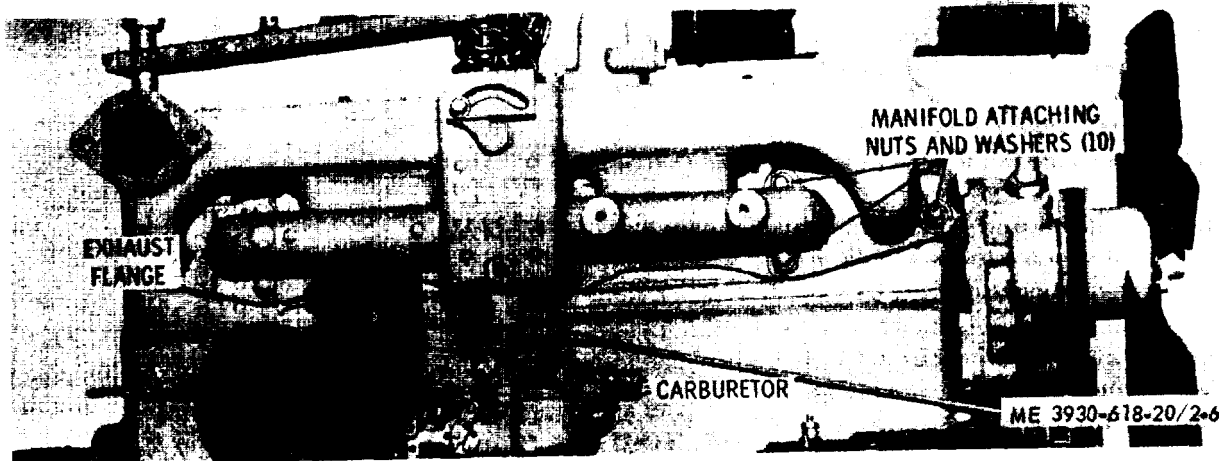

Figure 2-6. Manifold assembly, installed view.
b. Removal. Refer to figure 2-6 and remove the manifold as follows:
(1) Remove engine side panels, seat, seat deck, and air cleaner.
(2) Remove the carburetor air hose, rocker arm cover breather line and exhaust pipe.
(3) Disconnect choke control, accelerator rod, and governor control rod from the carburetor (para 2-17).
(4) Close the fuel supply valve at the fuel tank. Remove the carburetor (para 2-17).
(5) Remove the nuts and washers attaching the manifold to the studs and remove the manifold.
(6) Remove the retainers and gaskets from the manifold ports.
a. Remove the rocker arm cover vent valve and install a vacuum gage in the pipe plug opening in the intake manifold (fig. 2-6).
(1) If the engine is normal, a vacuum of approximately 18.3-inch suction pressure will be indicated. The pressure will drop to about 3.4 inches when the throttle is opened and will increase, to about 24 inches when the throttle is closed.
(2) A vacuum of 15- or 16-inches with a steady needle indicates that the piston rings, pistons, or lubricant are probably in poor condition. Slight needle motion indicates late ignition timing.
(3) A vacuum of 8- to 12-inches with a steady needle indicates worn valve guides, worn piston rings, poor lubricant, or an intake manifold leak.
(4) A vacuum of below 5 inches with a steady needle indicates an intake manifold leak.
(5) If the vacuum pressure is normal when the engine starts but drops gradually, the exhaust system is probably defective or the muffler is restricted.
(6) If the vacuum is normal but drops at irregular intervals, sticking valves: rich or lean carburetor mixture: or defective spark plugs are indicated.
(7) If the vacuum pressure is normal but drops at regular intervals, defective valves or a leaky cylinder head gasket is indicated.